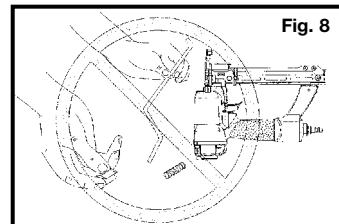

Fig. 8
- **Never use a tool** that is leaking air, has missing or damaged parts, or requires repair. Make sure all screws and caps are securely tightened. (Fig. 8).
- **Never use tool if safety, trigger or springs** are inoperable, missing or damaged. Do not alter or remove safety, trigger, or springs. Make daily inspections for free movement of trigger and safety mechanism. (Fig. 8)